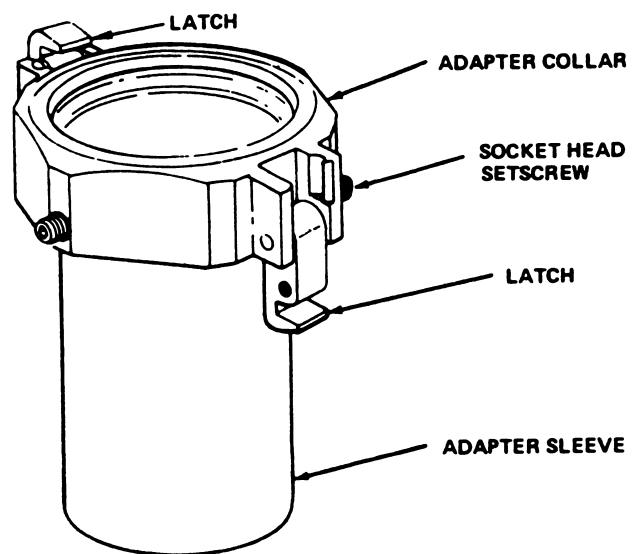

Figure 12-29.—Fuze drive adapter.
2. Release the latches on the adapter collar and screw the locknut all the way toward the arming vane end of the fuze drive. Refer to figure 12-29 for identification of parts.